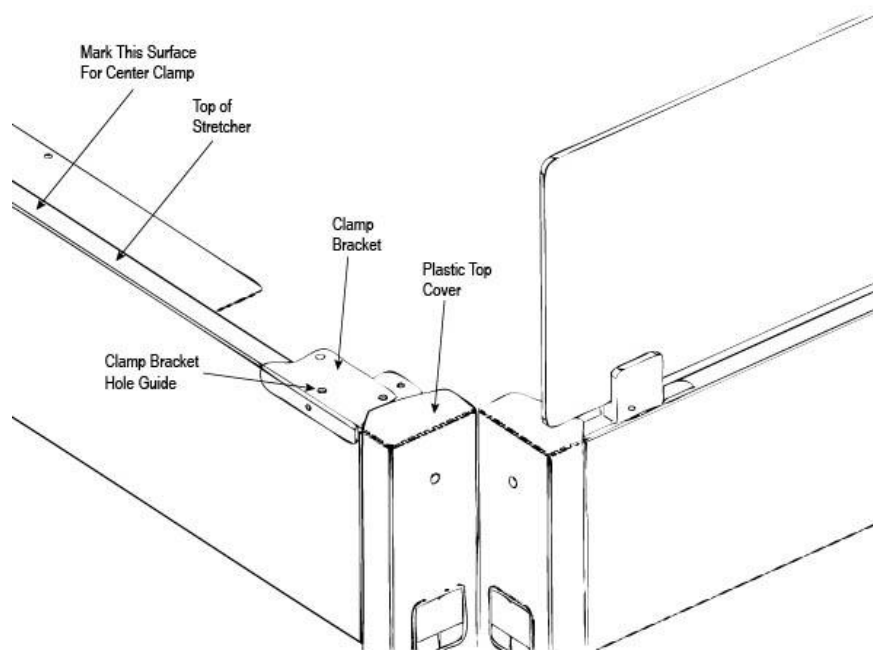

Figure 1: Pilot Hole View
1. Locate the supplied Clamp Brackets (these also serve as drill templates). Place a Clamp Bracket onto the desk's rear stretcher, as shown in **Figure 1**. Butt the contoured edge of the bracket against the desk leg's top cover.